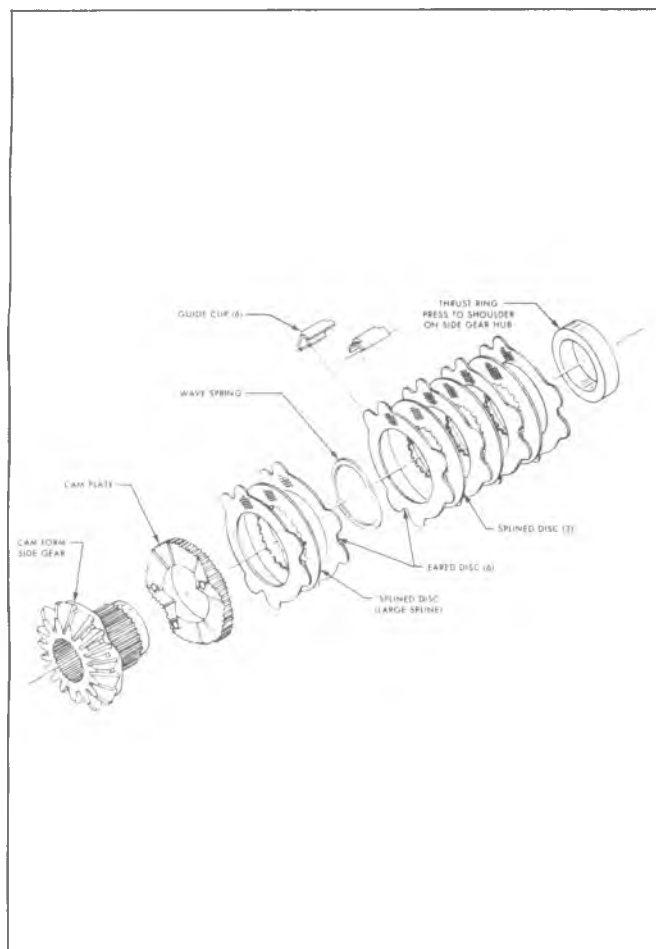

Fig. 4B-9H—Cam Plate and Clutch Discs
If cam plate or clutch discs must be replaced, the cam gear sub-assembly must be serviced as follows: Refer to Figure 4B-9H.
3. Assemble onto cam plate (2) eared discs, (1) splined disc, and (1) : wave spring alternately as shown, Fig. 4B-9H.
4. Assemble onto gear hub: (4) eared discs and (3) splined discs alternately as shown. Begin and end with an eared disc.